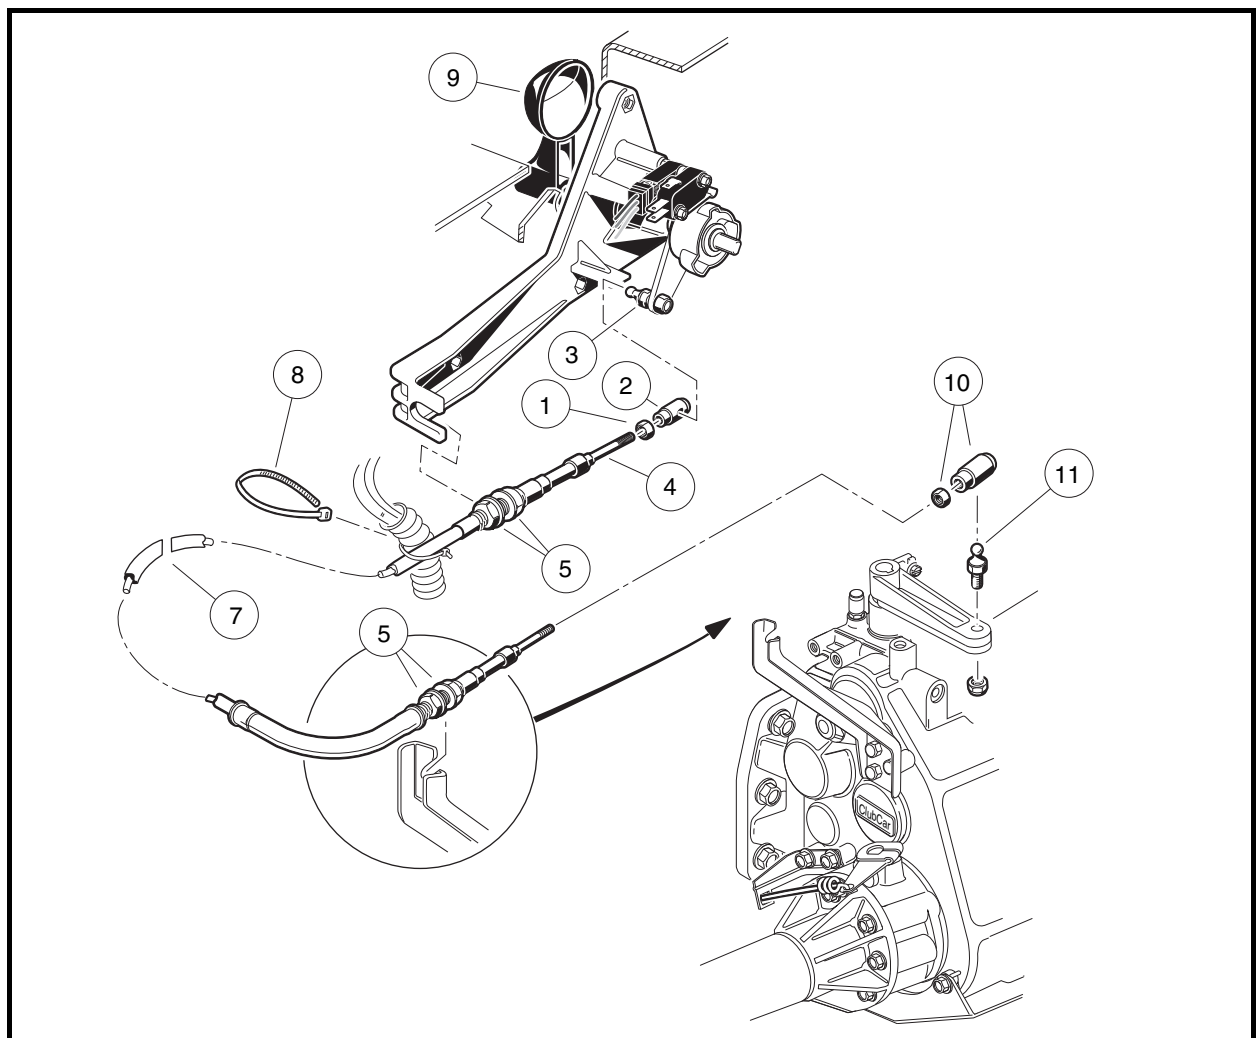

Figure 16-59 Forward/Reverse Shifter Cable
1. Remove the ball joint socket (2) from the Forward/Reverse shifter assembly ball stud (3) (Figure 16-59, Page 16-24).
2. Remove the ball joint socket (10) from the shifter arm ball stud (11) on the transaxle.
3. Loosen the retaining nuts (5) on both ends of the cable and remove the wire tie and cable.
2. Secure the cable with retaining nut (5) on each side of the shifter cable support bracket at the transaxle (**Figure 16-59, Page 16-24**) and tighten nuts to 22 ft-lb (29.8 N·m).
3. Secure the cable with retaining nut (5) on each side of the shifter cable support bracket at the Forward/Reverse assembly and tighten nuts to 22 ft-lb (29.8 N·m).
4. Install the ball joint socket (10) on the shifter lever ball stud (11) on the transaxle.
5. Install the ball joint socket (2) on the Forward/Reverse shifter assembly ball stud (3).
6. Install wire tie (8) to secure wire harness to cable at the support bracket near the Forward/Reverse shifter assembly. **See following WARNING.**
Place the shifter lever in the NEUTRAL position (straight up) (**Figure 16-58, Page 16-23**). For minor adjustments, the nut (1) may be loosened and the ball joint socket (2) rotated to get the proper adjustment (**Figure 16-59, Page 16-24**). **See following CAUTION.**
For major adjustments, the cable retaining nuts (5) must be loosened and adjusted. When the cable is properly adjusted, with the Forward/Reverse handle (9) (**Figure 16-59, Page 16-24**) in the NEUTRAL position, the shifter lever of the transaxle will also be in the NEUTRAL position (**Figure 16-58, Page 16-23**). Retighten nuts to 22 ft-lb (29.8 N·m).